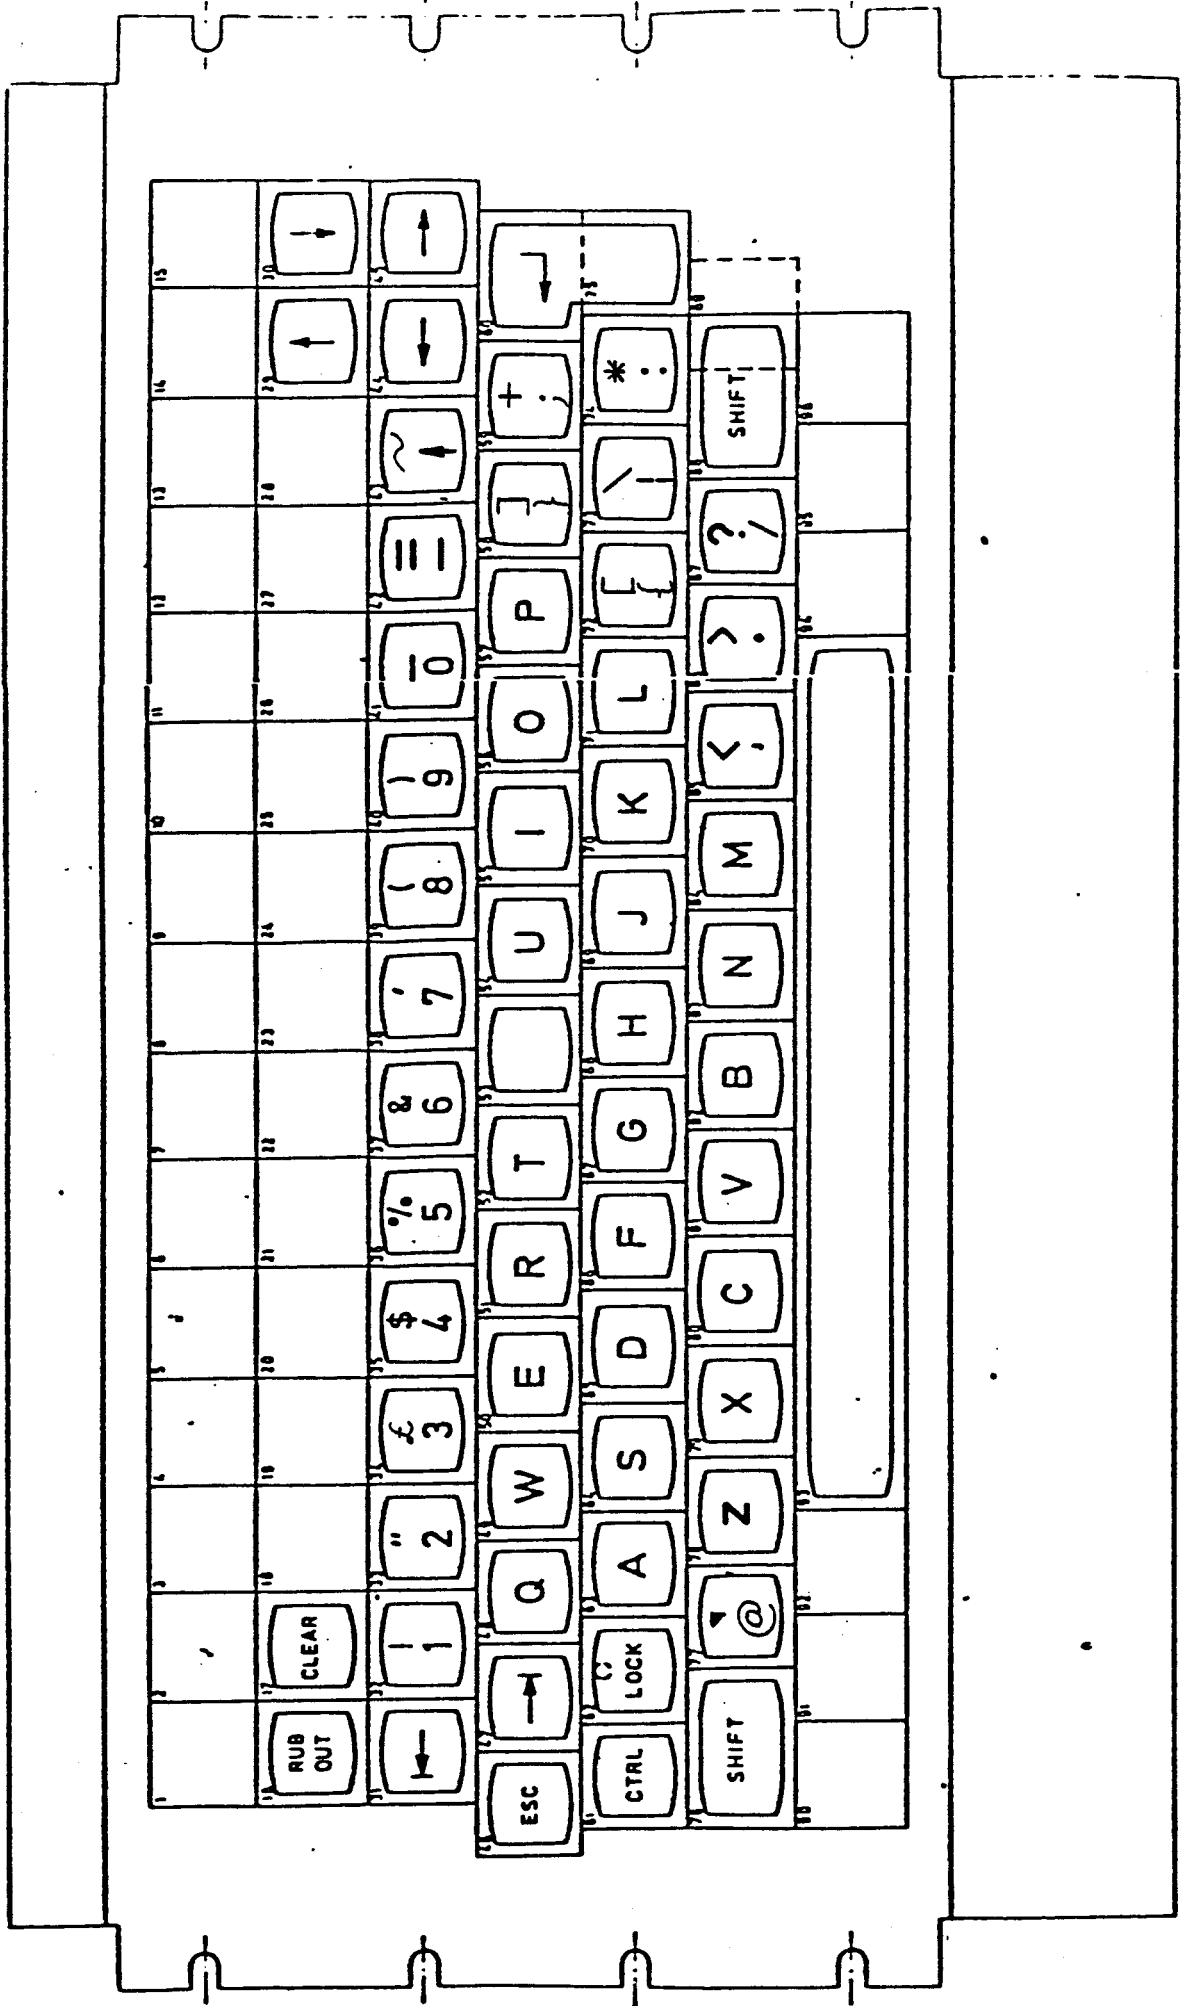

Fig. 9. LAY OUT RC 721, 005 UK ASCII
- Fig. 9 shows RC721,005 keyboard UK ASCII alphabet.